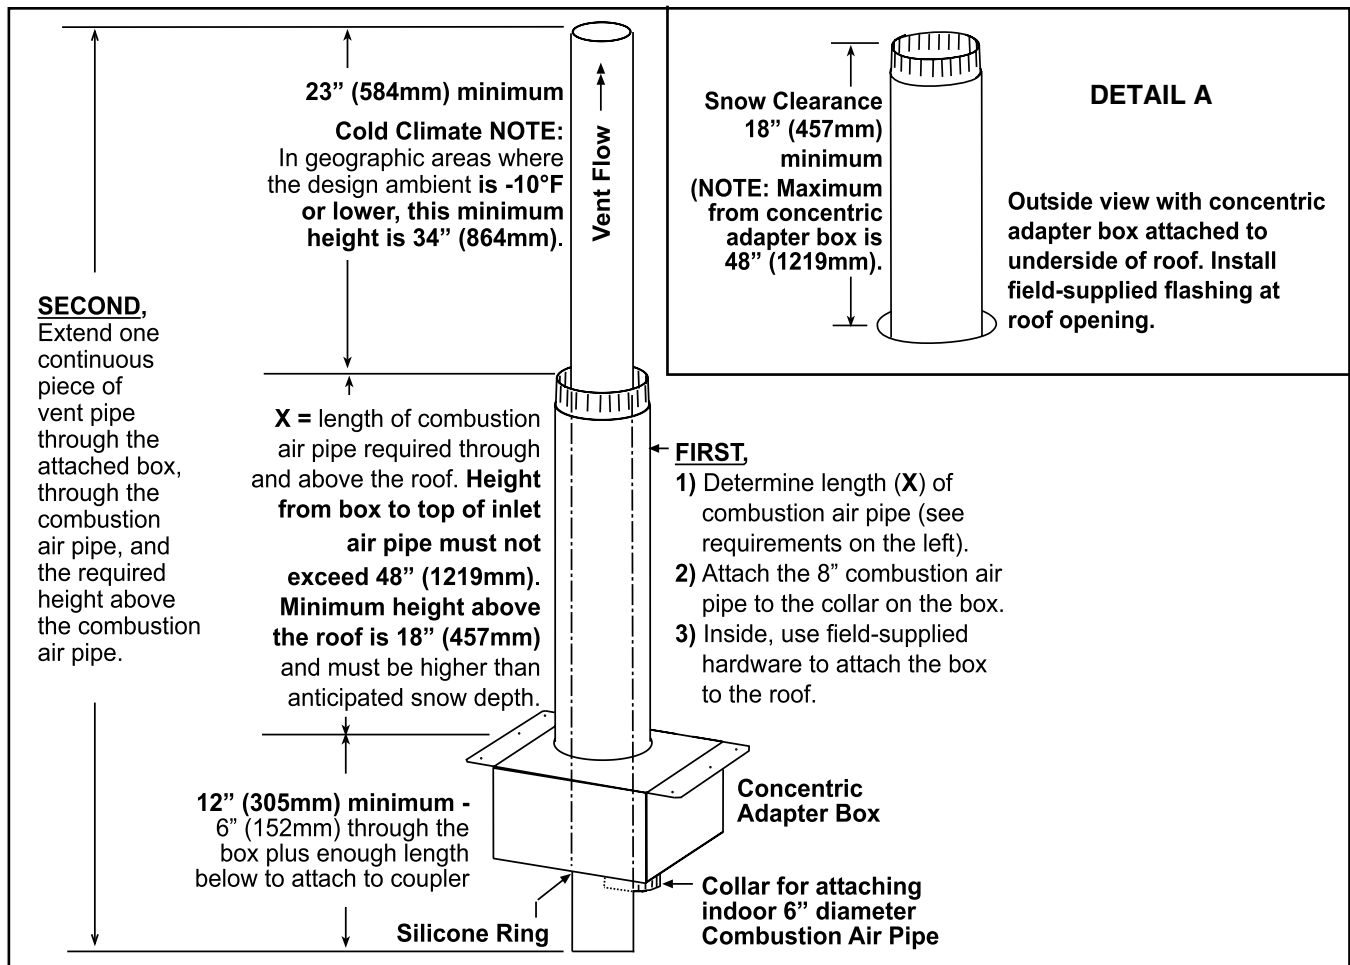

Figure 13. Combustion Air Pipe Installation
##### 4. Connect combustion air pipe to concentric adapter box (see Figure 13):
- Determine length of combustion air pipe so that dimension X in Figure 13 is equal to roof thickness plus anticipated snow depth. Ensure that length of combustion air pipe does not exceed 48 inches (1,219 mm) or does not extend *less than* 18 inches (457 mm) above roof.
- a. Insert combustion air pipe through roof as shown in Figure 13, DETAIL A.
- a. Refer to Figure 13 to determine required length of continuous section of vent pipe. Determine length as follows: **1)** start with at least 6 inches (152 mm) below concentric adapter box for connecting to coupler, **2)** plus 6 inches (152 mm) through box, **3)** plus length of combustion air pipe, **4)** plus minimum of 23 inches (584 mm) beyond top of combustion air pipe—total is minimum length of vent pipe section.